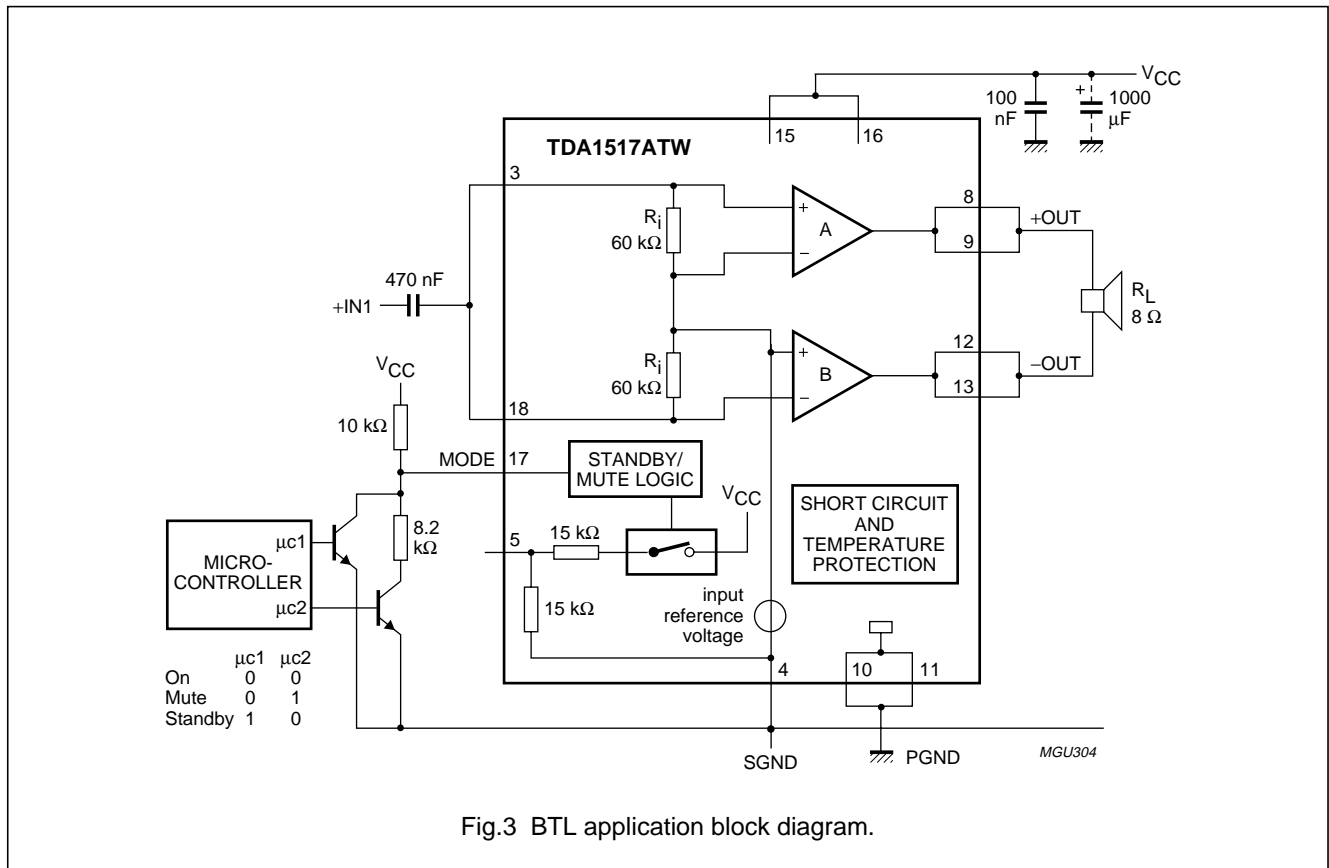

Fig.3 BTL application block diagram.
DC CHARACTERISTICS $V_P = 12$ V; $T_{amb} = 25$ °C; measured in Fig.3; unless otherwise specified.
8. $R_L = 8 \Omega$, measured in Fig.3.
The BTL application block diagram is shown in Fig.3. The PCB layout [which accommodates both the mono (BTL) and stereo (single-ended) application] is shown in Fig.6.